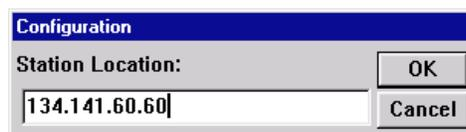

Figure 2-8. Station Location Configuration Window
2. Click on the I-bar cursor in the **Station Location** text box; the Station Location Configuration window, Figure 2-8, will appear.